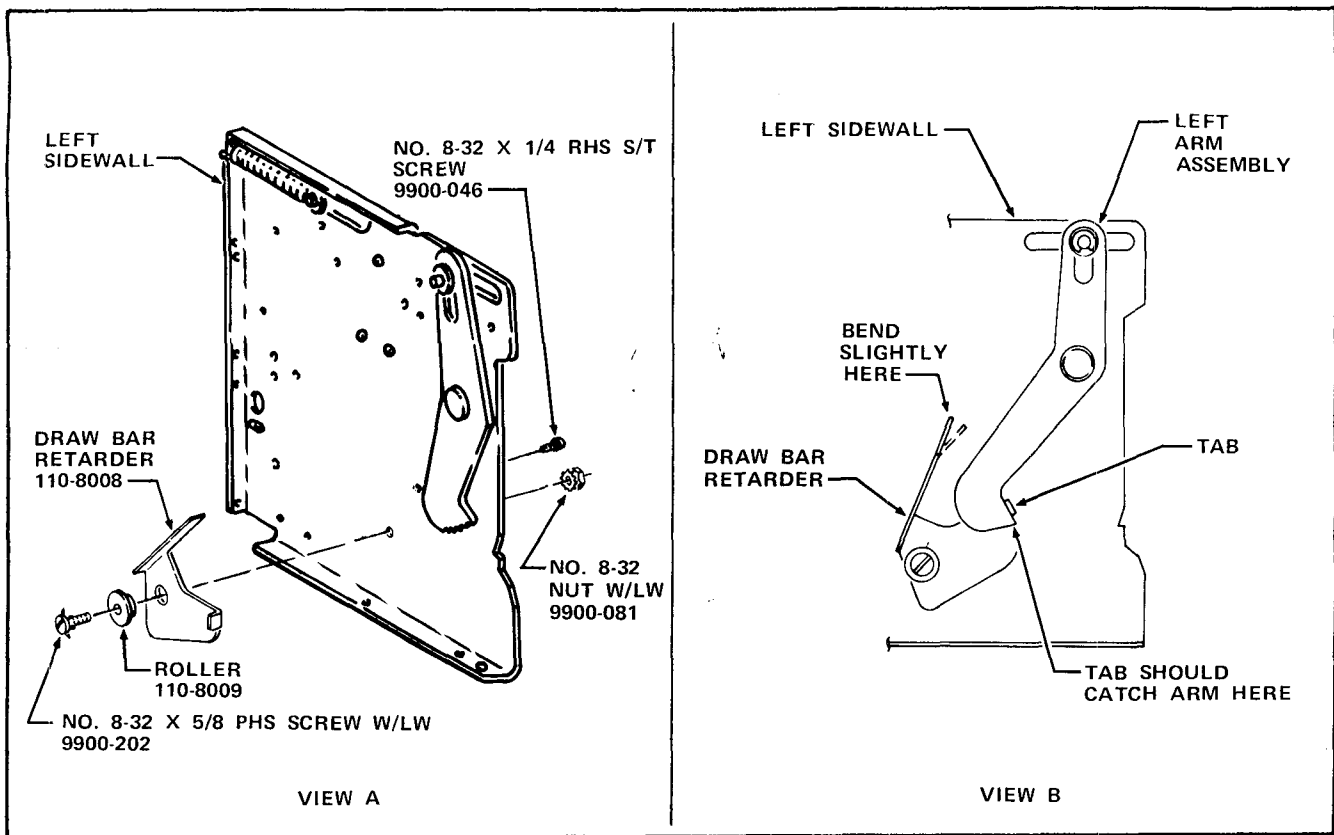

FIGURE 7-6
36. Install the Draw Bar Retarder, Part Number 110-8008, and Roller, Part Number 110-8009, on the Left Sidewall using a No.8-32 x 5/8 PHS Screw with Lockwasher, Part Number 9900-202, and a No.8-32 Nut with Lockwasher, Part Number 9900-081, all included in the Kit. Lubricate the Roller with Lubriplate. See View A of Figure 7-6.
37. Install a No.8-32 x 1/4 RHS Self Tapping Screw, Part Number 9900-046, included in the Kit, from the inside of the Left Sidewall so the Draw Bar Retarder Arm rests on the threads of the Screw. See View A of Figure 7-6.
When a Pull Knob is pulled too fast, the Draw Bar Retarder Tab will lock the Left Arm Assembly preventing a "free" vend. To complete the vend cycle when this happens, pull the Pull Knob all the way out, which will release the Left Arm Assembly and allow the Pull Knob to return to the at rest position. If the Draw Bar Retarder does not satisfactorily lock the Left Arm Assembly when a Pull Knob is pulled fast, bend the Draw Bar Retarder Arm down slightly until the Draw Bar Retarder works properly. See View B of Figure 7-6.